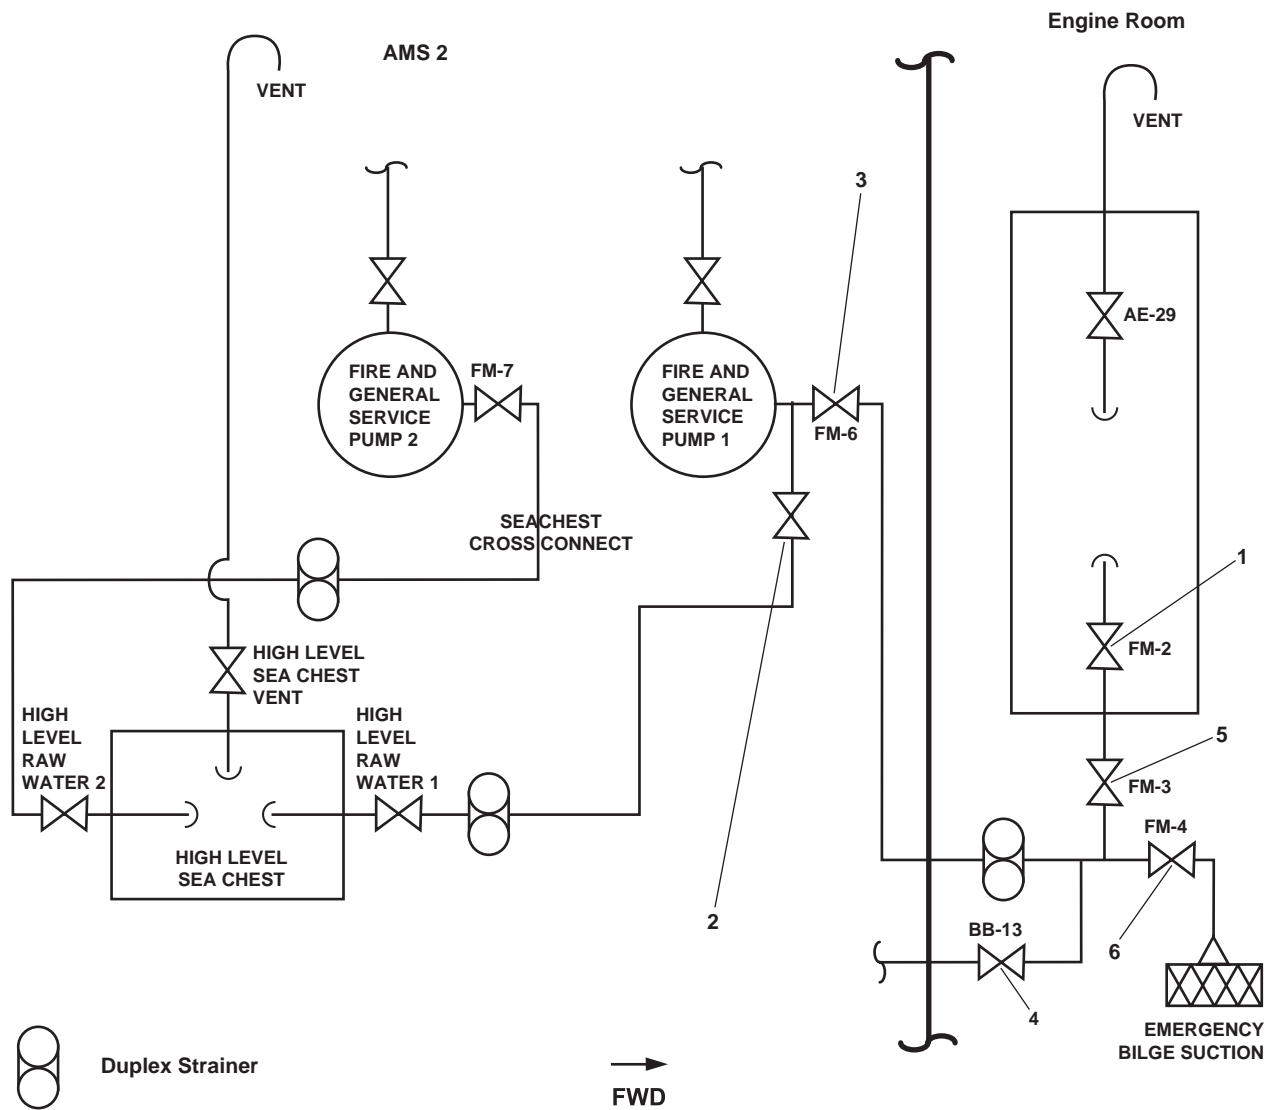

Figure 2. Firemain and General Service Valve Locations
- c. FM-2, SEA SUCT. FIRE/G.S. &BLST PMPS. (figure 2, item 1)
- d. HIGH LEVEL SEACHEST CROSS CONNECT (figure 2, item 2)
- a. FM-6, FIRE/G.S. PMP No. 1 SUCT (figure 2, item 3)
- h. BB-13, S.W. TO BLST. PMPS (figure 2 item 4)
1. CLOSE valve FM-3, S.W. TO BILGE/BLST. PMPS. (figure 2, item 5).
2. OPEN valve FM-4, EMER BILGE SUCT (figure 2, item 6).